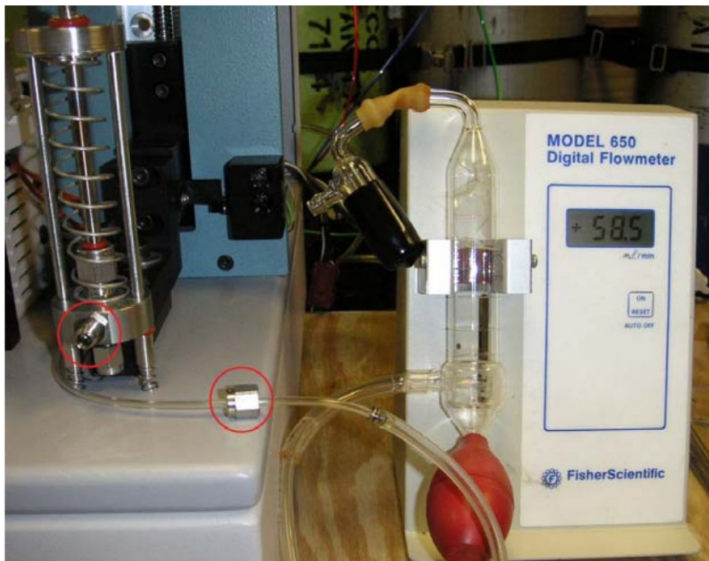

Figure 21. Gas Flow Measuring Equipment.
1. Unscrew the carrier/oxidation gas connector and connect gas line to a gas flowmeter (*Figure 21*). See *Using the Flowmeter to Measure Gas Flow* for instructions on using the flowmeter.
4. Unscrew the carrier/oxidation gas connector, and connect the gas line to the gas flowmeter at the T-junction just above the red bulb (Figure 21).